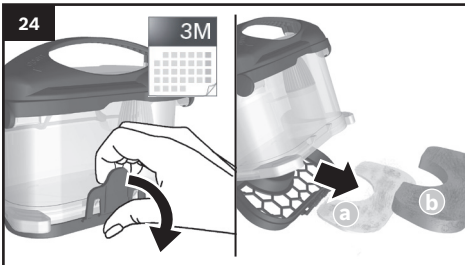

Figure 24
When it is visibly soiled, clean the filter as described from figure 24 onwards.
- ! **Note:** After any malfunions, you must clean the filters on the dust container (figure 24 + figure 25).